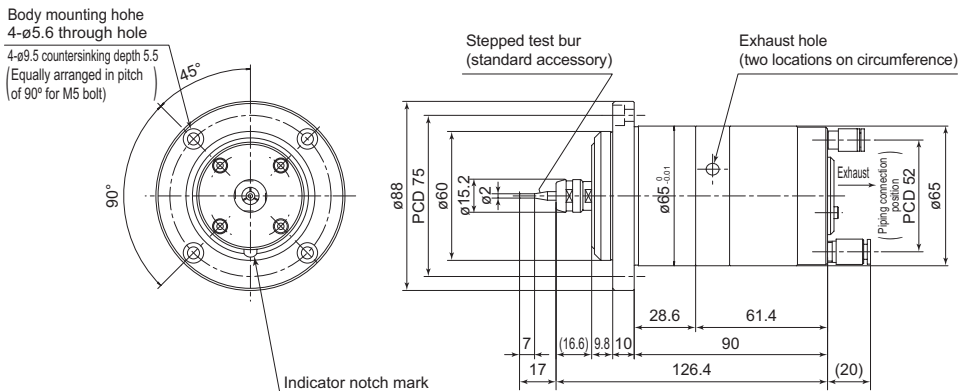
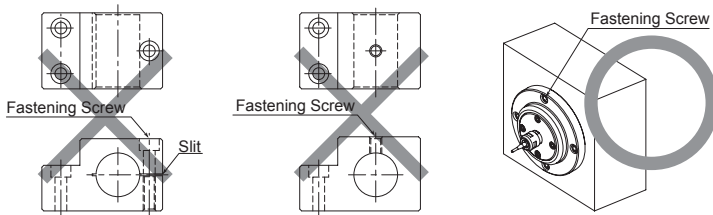

Fig. 2 Appearance dimensions detailed drawing
Fig. 3
- ① Remove the protect cover of the Xpeed1200.
- ② Insert the spindle housing diameter $\varnothing 65$ section into a holder (prepared by customer).
- ③ Secure the spindle to the countersunk holes (4 locations) on the flange using M5 bolts as shown in Fig.2 and Fig.3.
- ① Secure the main body so as not to block the exhaust holes (2 locations on the circumference) on the back of the spindle. Install the main body laterally so that the exhaust hole faces downward.
- ② If the spindle housing diameter $\varnothing 65$ section is tightened and fixed using bolts and a split sleeve, split holder arrangement, the main body will be geometrically deformed and assembly accuracy will be affected. Troubles such as rotation failure and heat generation may result. Absolutely never fix it with bolt and split type holders. (Refer to Fig.3).
- ③ Since the spindle housing section has been assembled by stacking some components with high precision, spindle damage can occur if the spindle receives shock by bumping while inserting it in the holder. Therefore, very carefully perform installation work.